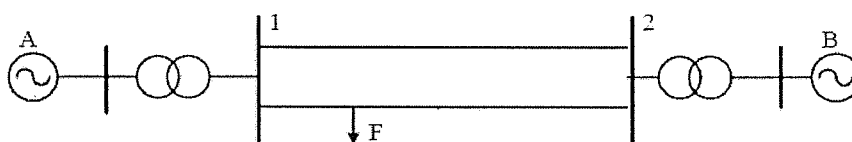

Figure Q4
- In the single line diagram shown in figure Q4, each generators A and B are rated at 200 MVA, 33 kV and has reactance of 0.95 p.u. and are generating voltage of 1.05 pu. Transformers are rated at 150 MVA, 33 kV/132 kV and have reactance of 6% each. The transmission line has a reactance of 10.5Ω .
- If three phase short circuit to ground fault occurs at the **quarter distance** of one of the transmission line from BUS 1 as shown in figure Q4, calculate the fault current in p.u. and its actual value. [5 Marks]